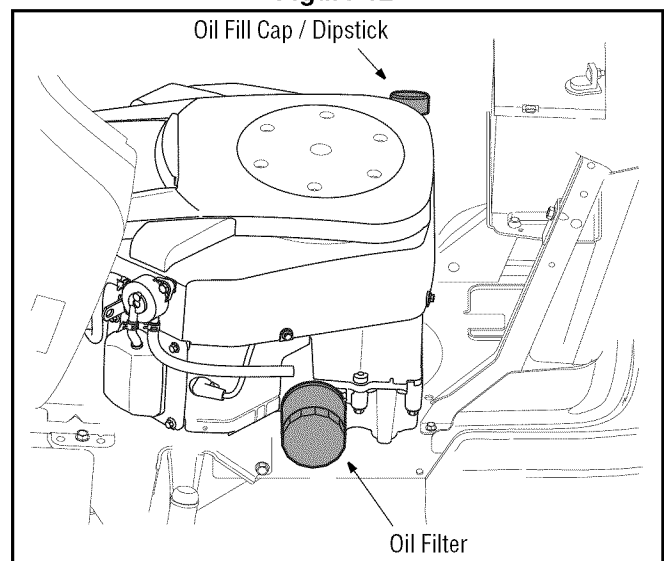

Figure 13
- Before removing the old oil filter, clean around its base to prevent debris from entering the crankcase. See Figure 13.